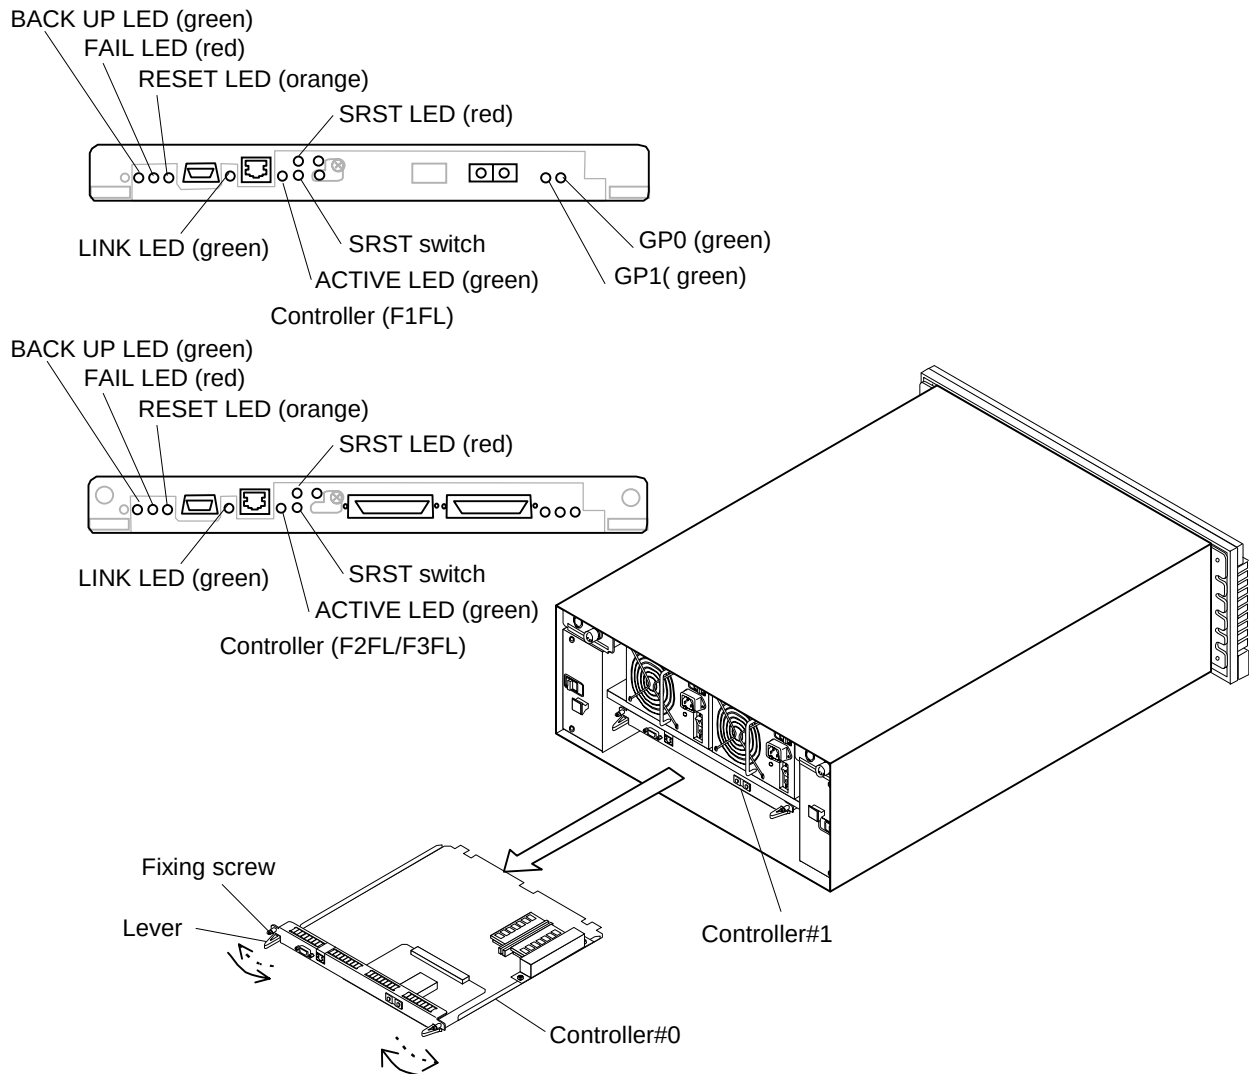

Figure 4.5.6 Replacing Controller
*1 : For the installation location of the FAIL LED, see Figure 4.5.6..
(1) Procedure for replacement with the power turned on (for the case of the dual Controller configuration only)
(a) Make sure that the FAIL LED (red) on the controller to be replaced is on. (Refer to Figure 4.5.6.)
- (b) To block the Controller by way of prevention against a failure, press the SRST switch and make sure that the FAIL LED (red) comes on (see Figure 4.5.6).
- (2) Procedure for replacement with the power turned off (See Figure 4.5.6.)